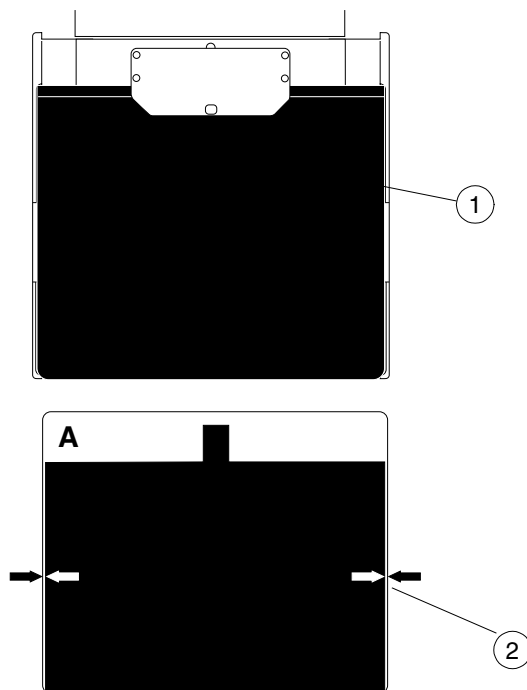
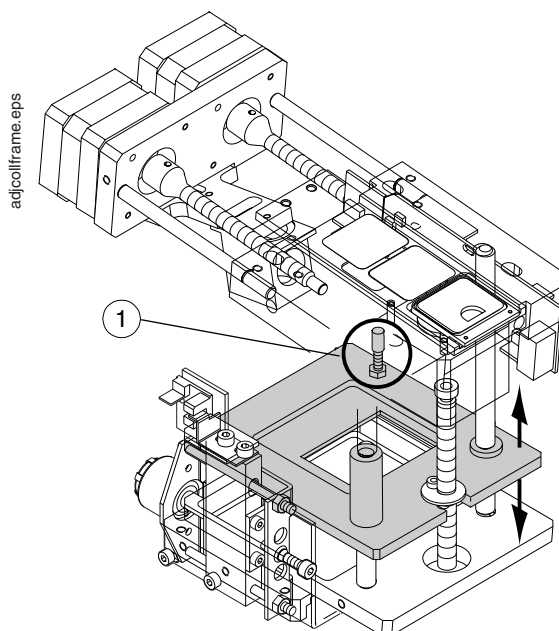

Figure F.4
Figure F.12
- a) Place a loaded large cassette on a cassette table (Fig. F.4, 1).
- c) Measure the unexposed areas on both sides of the film. The unexposed area must be between 0 mm - 3 mm (Fig. F.4, 2)
- a) Place a loaded small cassette on a cassette table (Fig. F.4, 1).
- c) Measure the unexposed areas on both sides of the film. The unexposed area must be between 0 mm - 3 mm (Fig. F.4, 2). Adjust the area by lifting and lowering the collimator magnet holder (Fig. F.12, 1).
- d) Check that the exposed area is straight on the film. Adjust the collimator magnet holder when needed (Fig. F.12, 1), and if that does not correct the situation, turn the collimator assembly slightly.